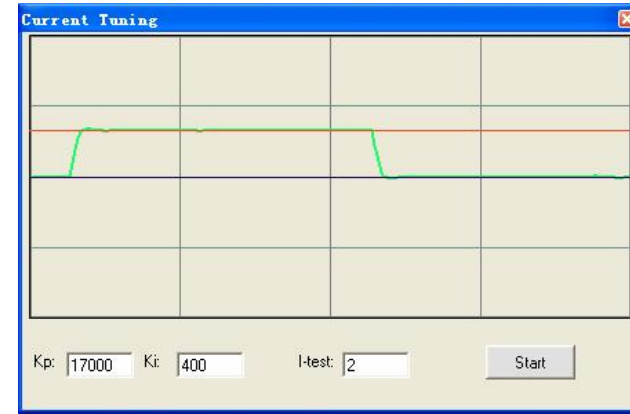

Figure 29: Step response with better K_p and K_i of current-loop ($K_p=17000, K_i=400$)
- After getting a small overshoot response, increase K_i to reduce the steady-state error until get a critically damped response. See figure 29.